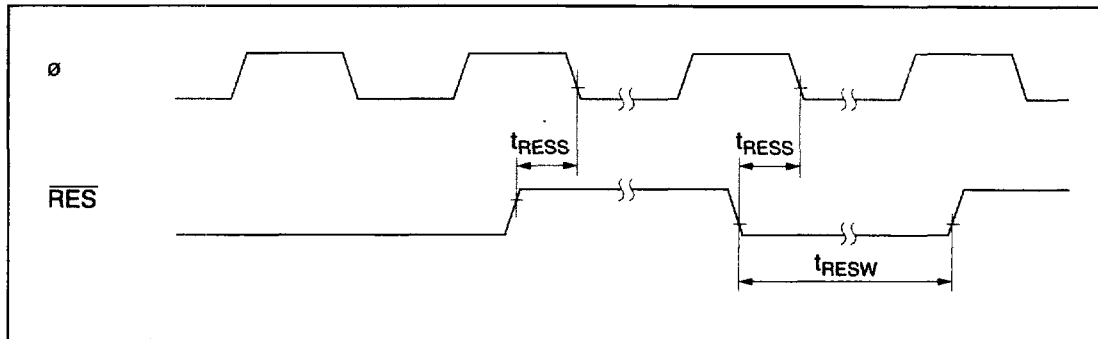

Figure 19-6 Reset Input Timing
19.3.2 Control Signal Timing	Figures 19-6 to 19-9